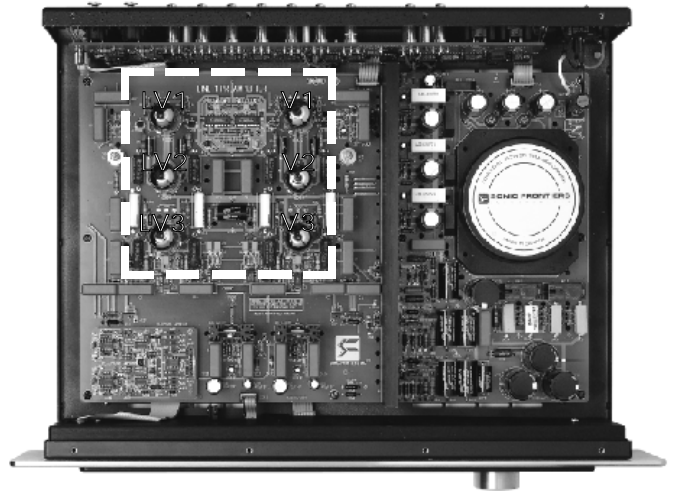

Figure 7 - Line 1 tube installation locations.
Do not adjust any controls inside any of the preamps - shown in Figures 7,8 and 9. These controls have been factory set for the optimum performance (both sonically and electrically) of the LINE Series Preamplifier. Do not adjust these controls - doing so will degrade the performance of the Line Series Preamplifier. They may only be adjusted using specialized test equipment that only authorized service depots, distributors or the Sonic Frontiers factory have for this purpose.
4. Now inspect the printed circuit board (PCB) above the tube sockets in the Line 1, Line 2 or Line 3 preamplifier for the codes matching the codes on the tubes (See Figures 7,8 and 9 for further clarification).